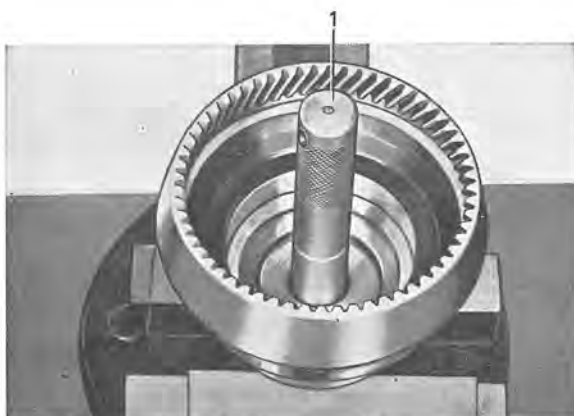

Fig. 4-52. Fitting bush, output shaft
1. Fit the bush on the output shaft with drift 2417, see Fig. 4-52. Press the front bearing to the output shaft with drift 2412.